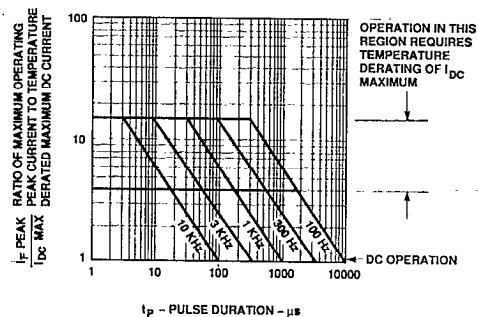

Figure 2. Maximum Allowed Peak Current vs. Pulse Duration - AlGaAs Red.
3. See Figure 2 to establish pulsed conditions.